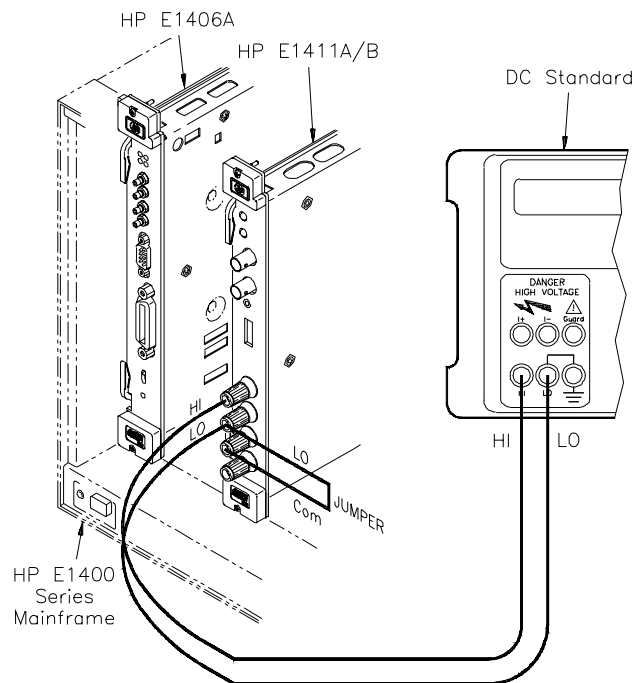

Figure 5-1. DC Voltage Adjustment Setup
1. Connect the equipment as shown in Figure 5-1.